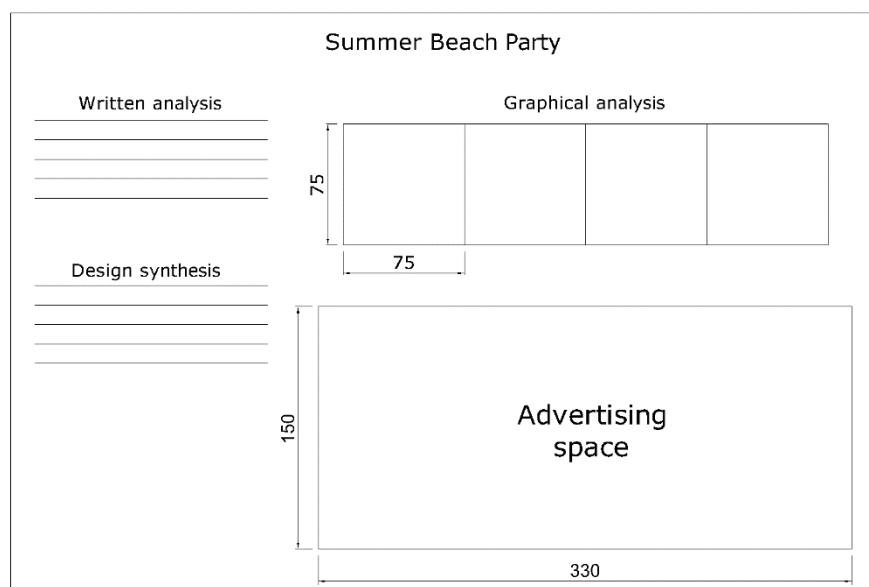

Figure 2b
You need to present your work broken down according to the following steps and as shown in Figure 2b below.
Use colour and shading to produce your final realisation in a rectangle as shown in Figure 2b. (14)
- Details of the page layout and the design space are given in Figure 2b below.